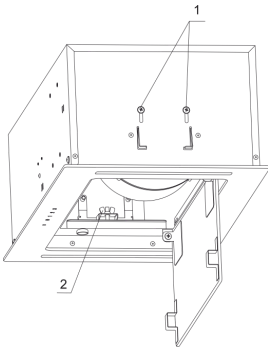

Fig. 5
6.5.1 Using a screwdriver, loosen the four screws on both sides by 0.5 turns (position 1 fig. 5). Then open the inner glass pane and pull out the aluminium grease filter.
6.5.2 Unscrew the wing nut (item 2 fig. 5) by hand on both sides for 5 turns (do not unscrew it completely).
6.5.3 Insert the hood into the cut rectangular hole by lightly pressing the elastic clips (Fig. 5). Screw the wing nut (item 2 Fig. 5) on both sides by hand until the hood is fully seated against the bottom shelf of the hinged furniture cabinet.